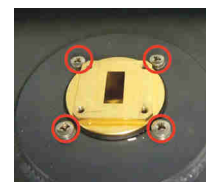

Fig. 7.43 Top flange
- 10 Remove the waveguide connector coming from the installation to get access to the top flange of the Waveguide Assy. Using tools 1/6, loosen and remove the four screws holding the top flange. See Fig. 7.43 (p. 145).